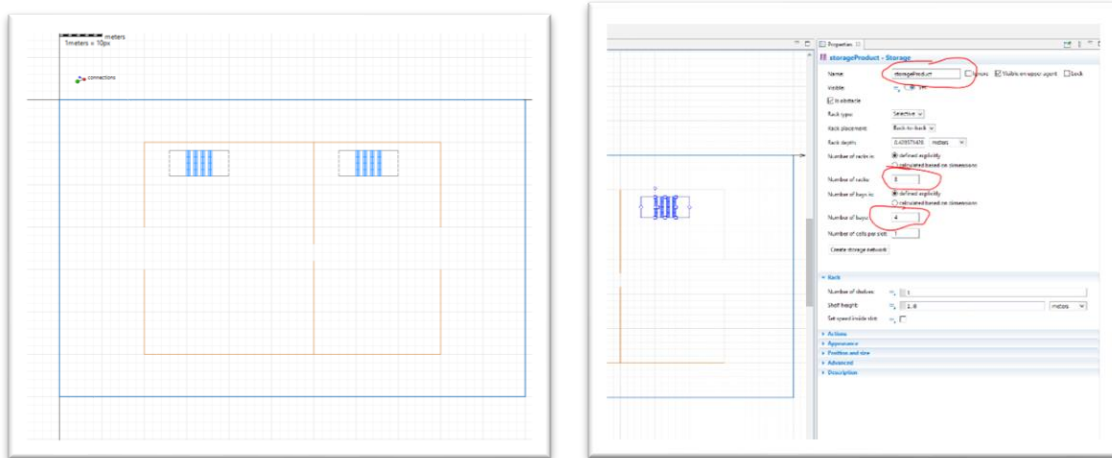

Figure 4. Adding Material Storage, Storage (Left) and Properties (Right).
Step 2b. Hover over the *Material Handling* Tab, under *Space Markup*, click and drag *Storage* to the left side of the facility, placing it on the grid as shown below. Name the *storage* “storageMaterial” by double clicking the *storage* image and changing the name on the *properties* panel. Create another *storage* on the right side of the facility named “storageProduct.” While still on the *Properties* panel change the number of *racks* to “8” and *bays* to “4”. See Figure 4 for reference.